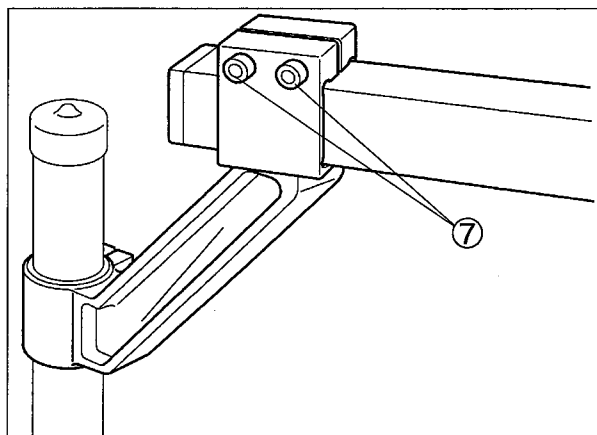

Fig. 2-19
○ For the back-and-forth direction, adjust the sub pole by loosening the screw ⑦. (Fig. 2-19)